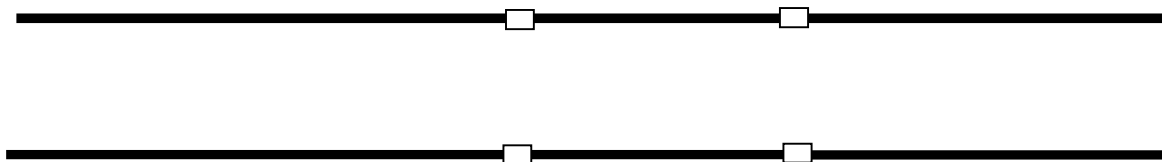

Fig .4
- iv. These gaps will be closed by providing two USFD tested rail pieces, keeping provision of two A.T. welds on either side.(Fig.4)